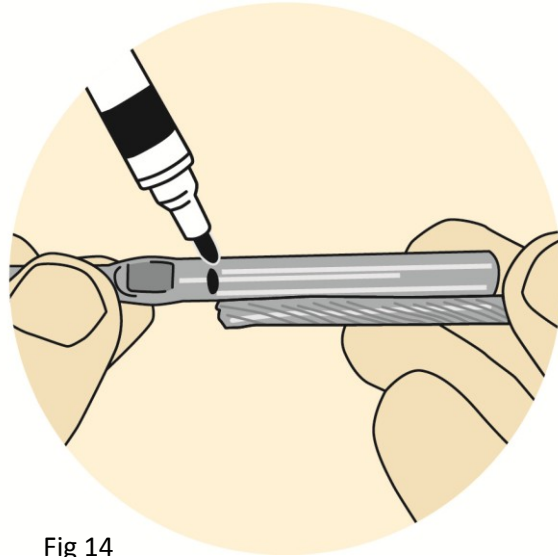

Fig 14
- Insert a piece of cable into the receiver end of the Swage Lag End (Fig. 14) and mark on the fitting that indicates how far the cable penetrates.